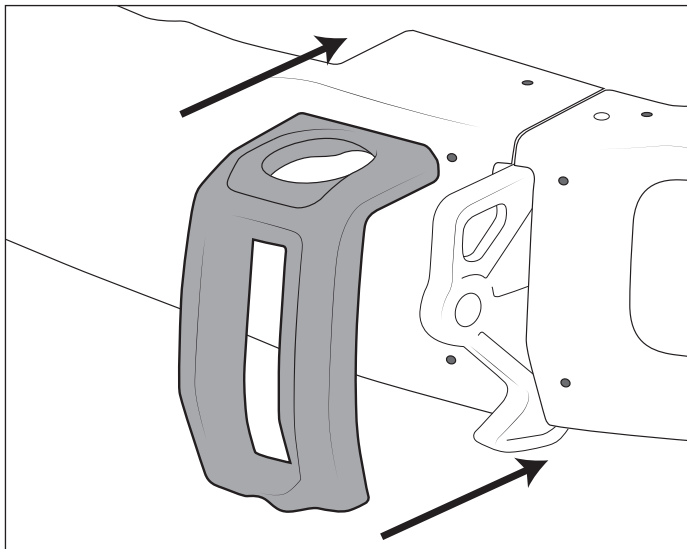

Figure 19
1. Install one of the tow loop bezels using M6x20 bolts and washers (fig. 19). Hand tighten.